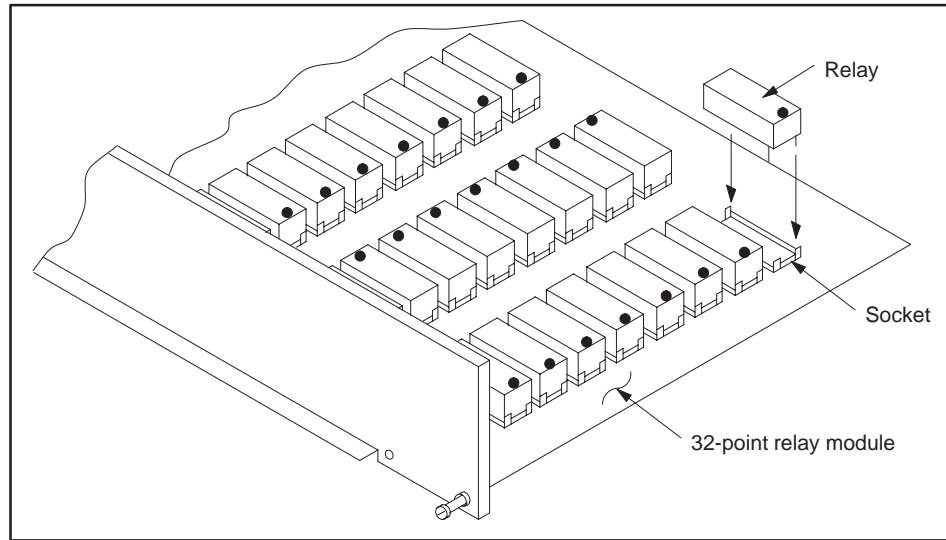

Figure 4-1 Replacing a Relay
7. Insert a new relay (PPX:2586289–0001) as shown in Figure 4-1, with the same orientation as the damaged relay.